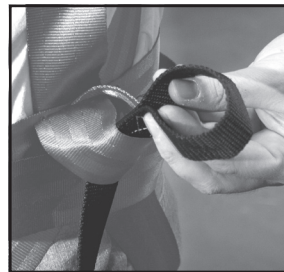

FIGURE 1A
2. Insert the looped end of SRD strap through either of the climbing belt loops sewn on harness, near the waist belt. Take the opposite end of SRD strap and feed it through the looped end and pull tight, forming a cinch knot. **SEE FIGURES 1A & 1B.**